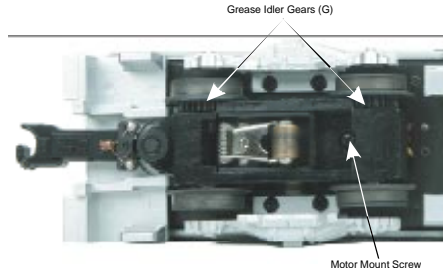

Figure 4
2. Once the cab is removed, remove the trucks by unscrewing the black Phillips motor mount screw located on the underside of the drive trucks (see Fig. 4).
Lubricate the outside truck block idler and drive gears with grease. Use the diagram shown in Figure 4 as a guide and add grease to the points marked with a "G."